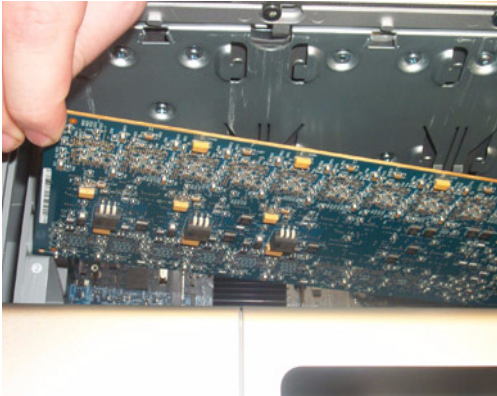

Figure 5. Sliding the front of the card into PCIe card support
- Carefully slide the front of the card down into slot 2's grey plastic PCIe card support (where the slot numbers appear), as in Figure 5.